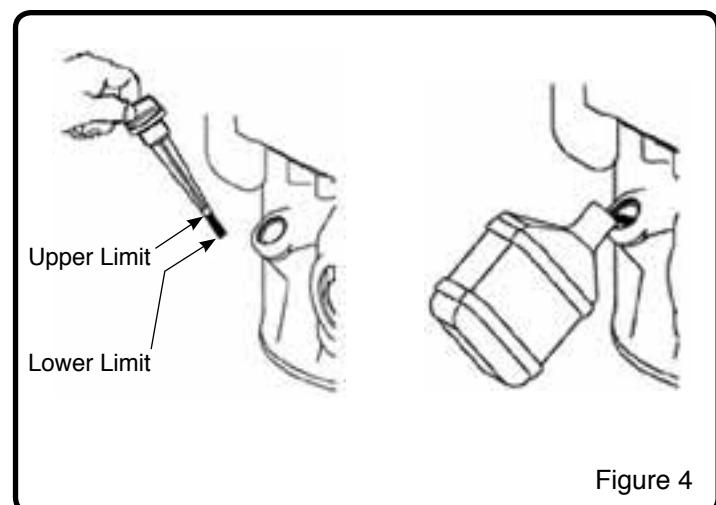

Figure 4
4. When oil level is full, the oil will be at upper limit on dip stick. If oil level is near or below the lower limit, oil must be added. (See figure 4)